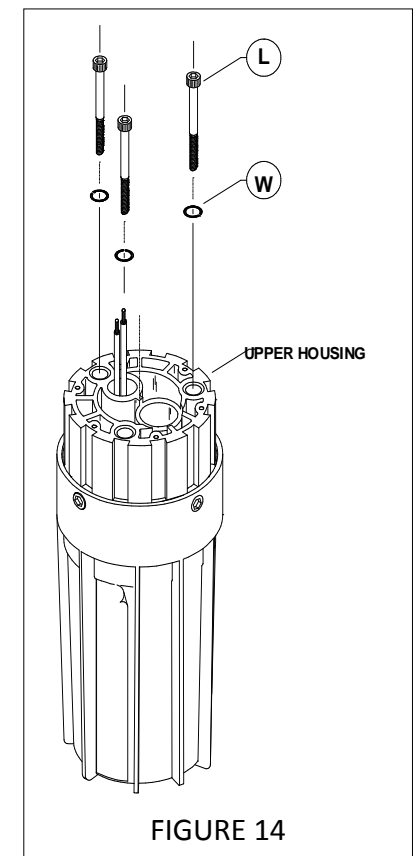

FIGURE 14
- 7.1 Using a 3/16" Allen Wrench tighten the screws in 3 places into the Upper Housing (N).
8. Turn the Assembly over as shown in Figure 14
9. Install the Lock Washers (Part W) and Screws (Part L) (Fig. 14)